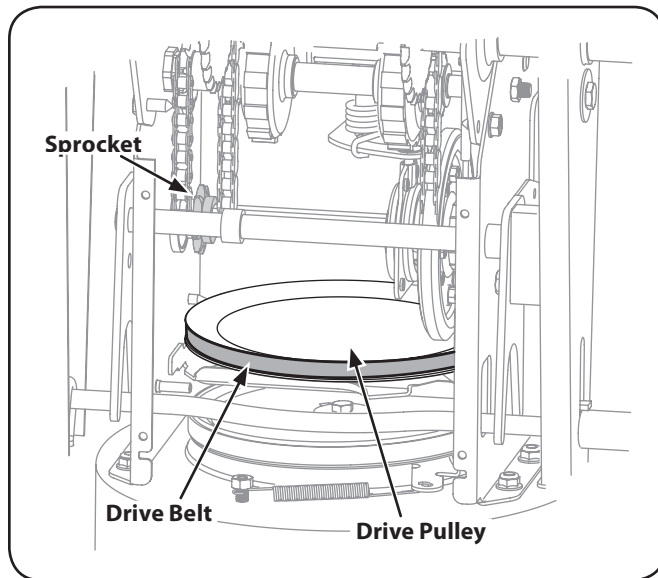

Figure 7-7
7. Slip the drive belt off the pulley and between friction wheel and drive pulley. See Fig. 7-7.
NOTE: Make sure to install the gear shaft through the sprocket shown in Fig. 7-7.